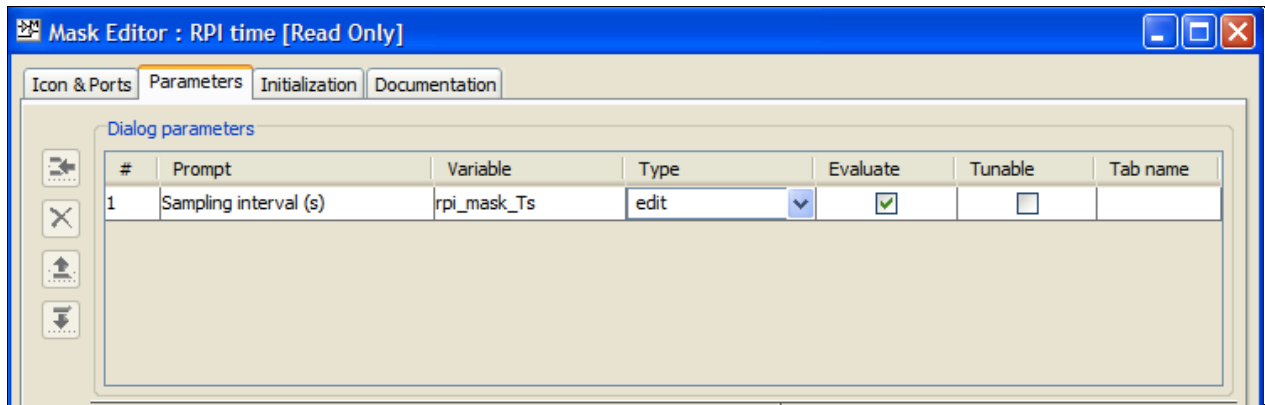

Figure 18 - Edit S-function mask
11. After having the mask created, you can edit it as shown in Figure 18. Be sure to enter at least one parameter, the one defining the sampling time.